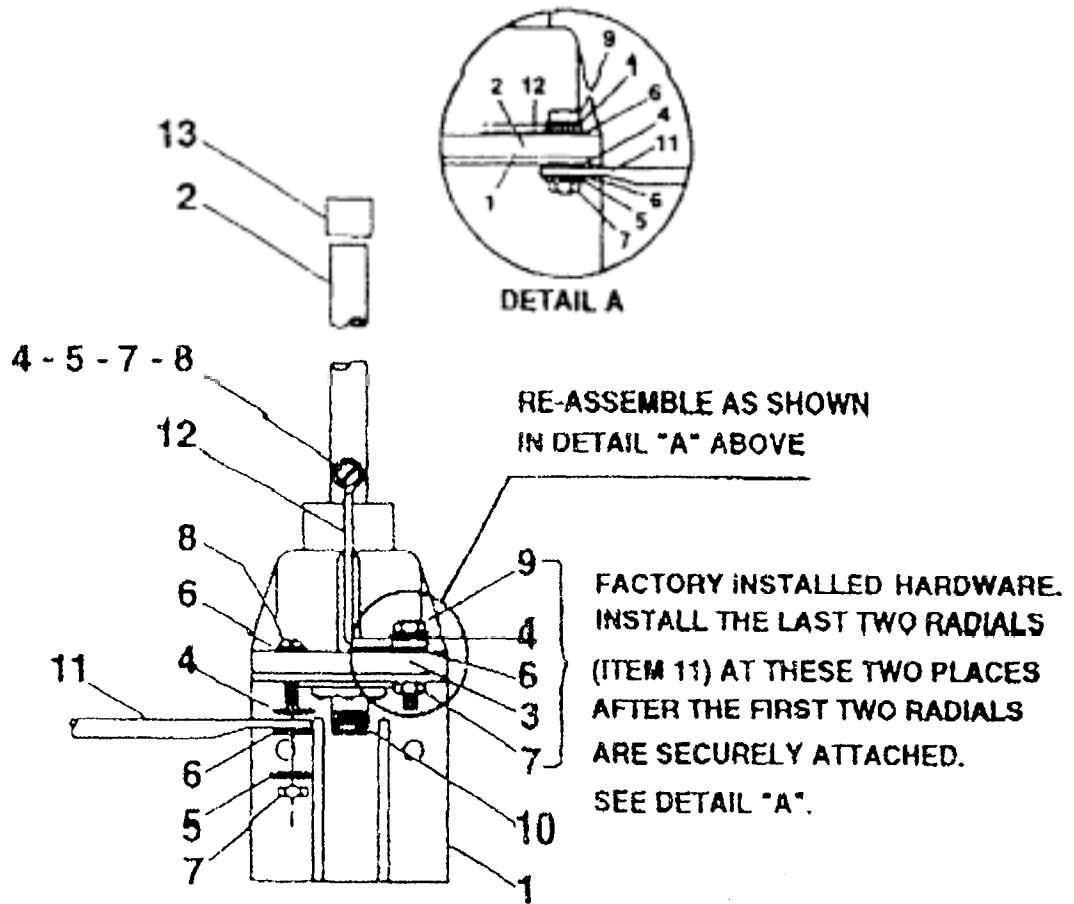

Figure 2
Remove the four (4) radials (Item 11), from the shipping container and attach two of the radials to the base bracket (Item 1) at the two open spaces (where there is no factory installed hardware). Use the #10 x 3/4" screw (Item 8), nut (Item 7), flatwasher (Item 6), internal lock-washer (Item 5), and external lockwasher (Item 4) as shown in Figure 2. Tighten hardware securely.